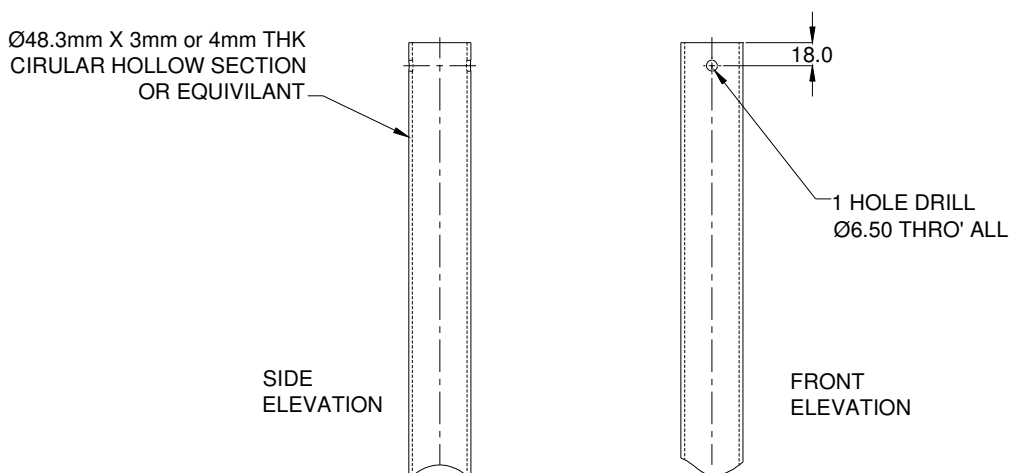
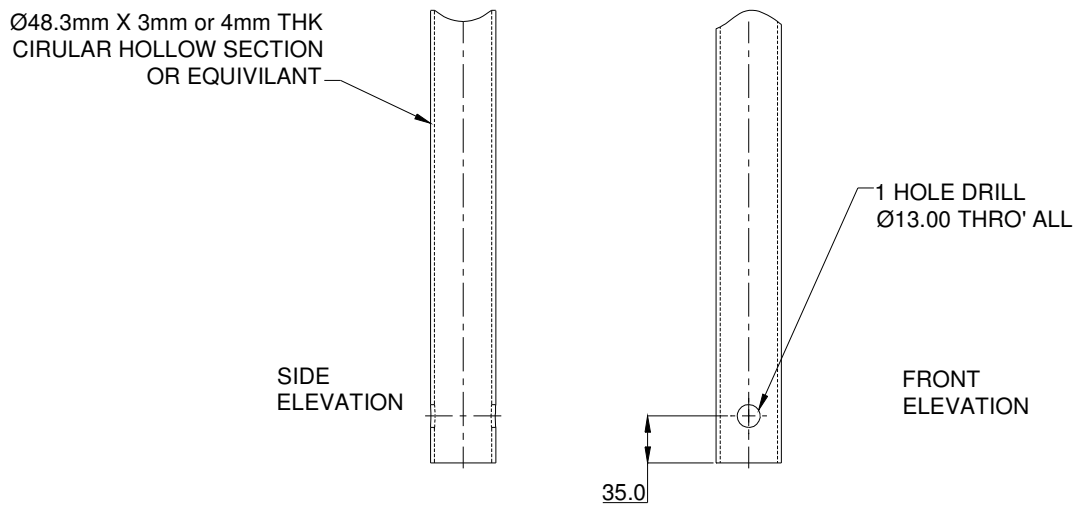

Fig 5: Mounting Hole for LE300 to be drilled at the top of the main tower section
Fig 6: Tower pivot hole to be drilled at the bottom end of the main tower section
7. **Drill the Main Tower Section** - The 48.3mm diameter steel tube requires a 6.5mm hole to be drilled in the top end to allow attachment of the LE300 and a 13mm hole to be drilled at the lower end to act as the pivot point for the tower. Fig 5 shows the position of the 6.5mm hole and fig 6 shows the position of the 13mm hole. Using a power drill and suitable drill bit, drill both of these holes in the 48.3mm diameter tube. It is recommended that a pilot hole is drilled in both cases.